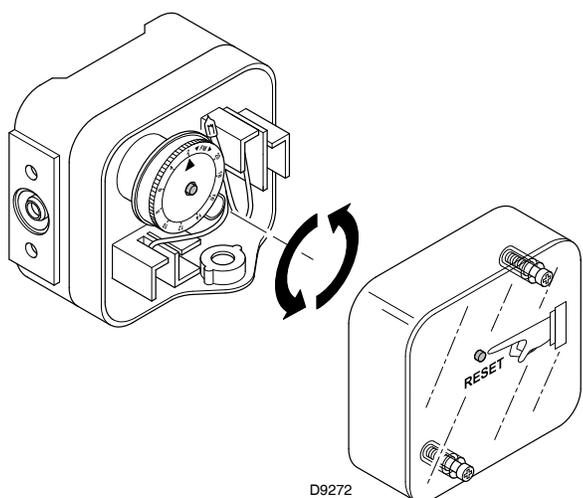

Fig. 34
- Adjust the maximum gas pressure switch (Fig. 34) to the end of the scale.